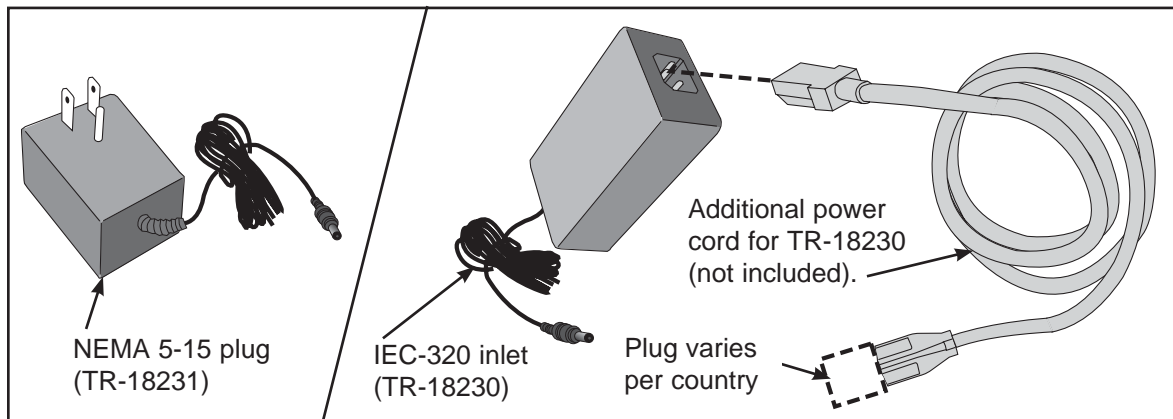

Figure 1
1. Plug the optional power cord into a power outlet from a grounded circuit as described under *Electrical Requirements* in this chapter. **NOTE:** Coil up the remainder of the power cord and place it out of the way. See Figure 1.